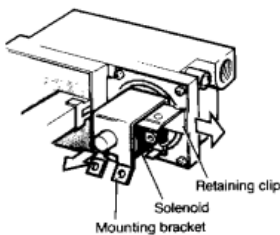

Fig. 22
5.11 To Replace the Gas Valve Solenoid - See Fig. 22.
3. Carefully prise out the retaining clip from behind the solenoid and lift off the solenoid and its mounting bracket, See Fig. 22.